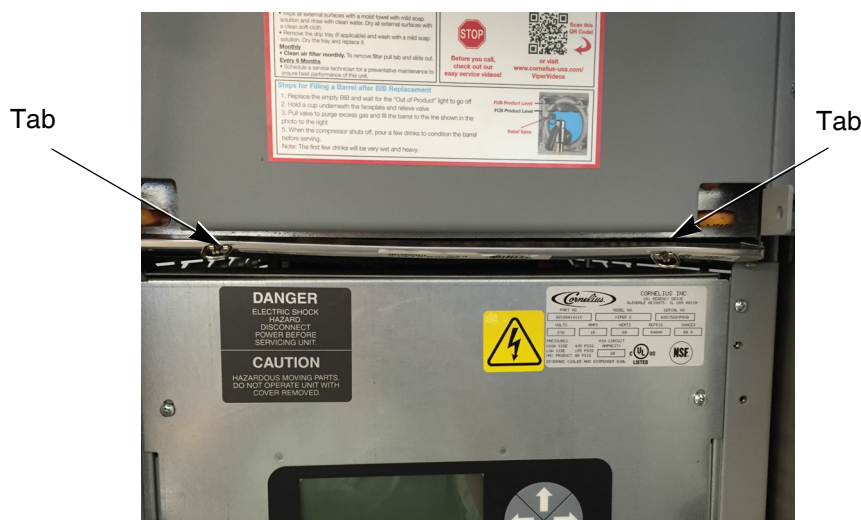

Figure 9.
2.	Remove the filter by grasping the two tabs (Figure 9.) and sliding it straight out the front of the unit.